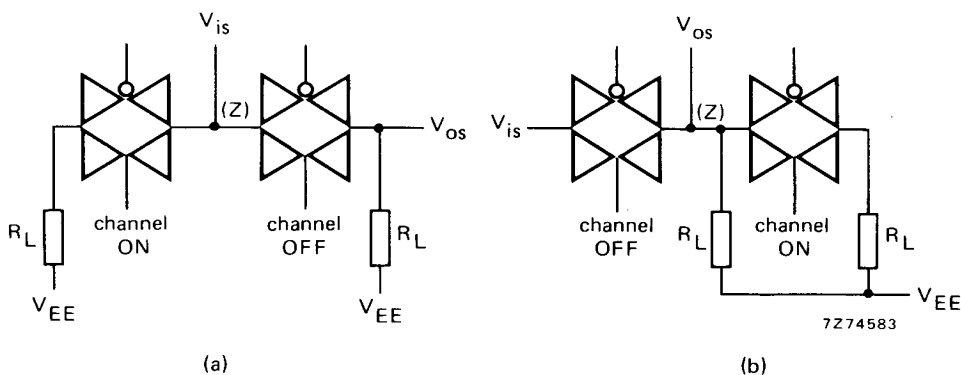

Fig. 10.
- $R_L = 1\text{ k}\Omega$; $V_{is} = \frac{1}{2} V_{DD(p-p)}$ (sine-wave, symmetrical about $\frac{1}{2} V_{DD}$); $20 \log \frac{V_{os}}{V_{is}} = -50\text{ dB}$; see Fig. 10.